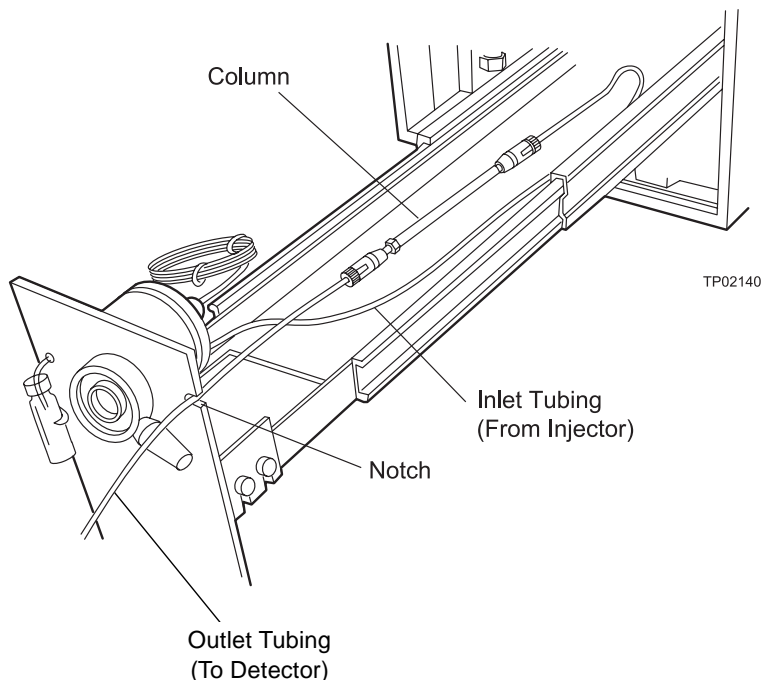

Figure 2-11 Column Installation
3. Place the column in the tray with the arrow on the column label pointing toward the front of the drawer. Allow the column to lie flat in the drawer (Figure 2-11).
4. Attach the inlet tubing and outlet tubing to the column as described below (Figure 2-11). Follow column instructions for flow direction.